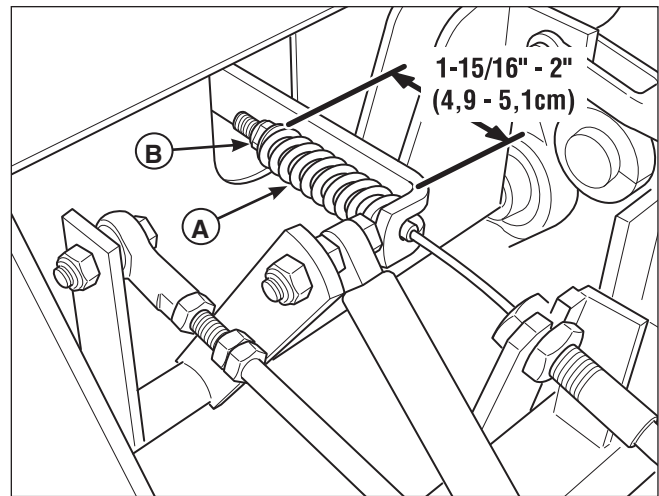

Figure 35. Parking Brake Adjustment
3. Locate the brake spring (A, Figure 35).
5. If the spring is not within this range, release the parking brake and turn the adjustment nut (B) to compress or release the spring.